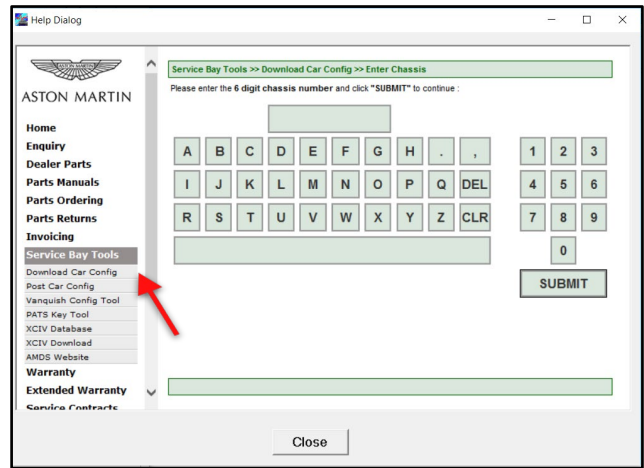

Figure 4
8. Click “Service Bay Tools” then “Download Car Config” (refer to Figure 4).